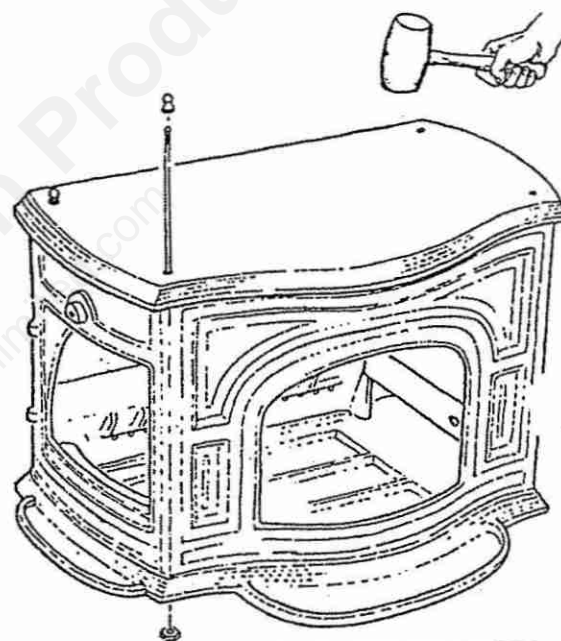

FIG. 20 REPLACE TOP AND ATTACH TIE RODS
Step 9 Install the tie rods (Fig. 20)